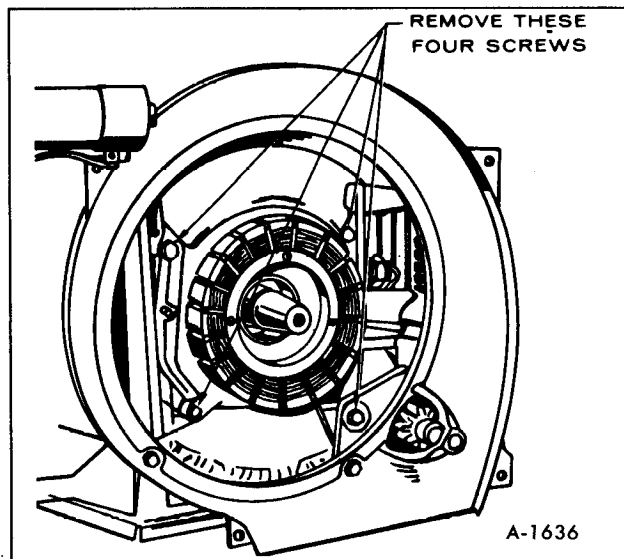

Figure 47-Removing Backing Plate
5. Remove blower scroll backing plate (two screws on bottom – two on gear cover) as shown in Figure 47.